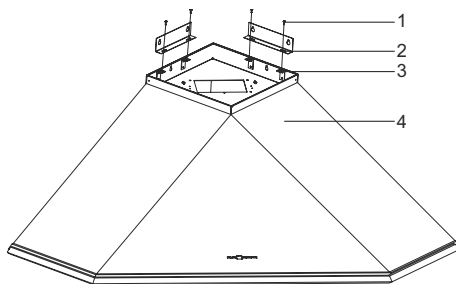

Fig. 13
- Install the hanger plates that are given in the product installation package on the hanger plate installation part located on the product body using the hanger plate connection screw (Fig. 13).